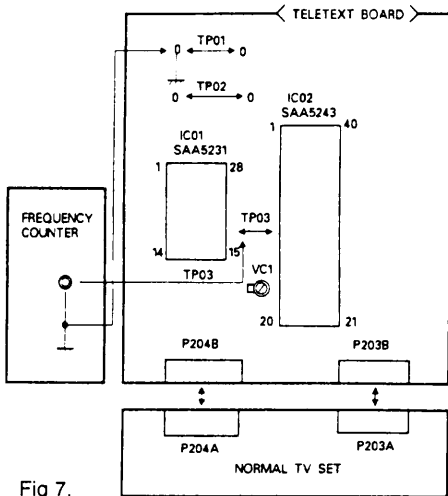

Fig 7.
- 1: Connect the instruments as shown in fig. 7 and switch on the TV receiver.